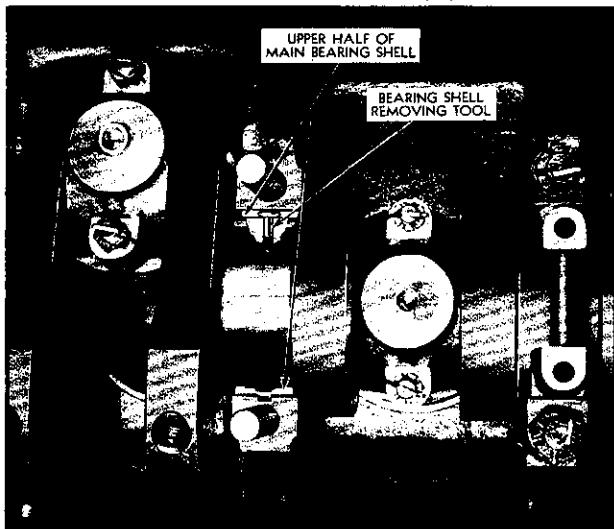

Fig. 3—Removing Main Bearing Upper Shell with Tool as Shown (Except Rear Main)—Crankshaft in Place.
**Remove Crankshaft Main Bearing Shells (Crankshaft in Place)**—When removal of upper half of main bearing shells becomes necessary and the removal of the crankshaft is undesirable, this operation can be performed by using the following procedure as a guide and by referring to Fig. 3.
4. The bearing cap having been removed, insert a  $\frac{1}{4}$ " x 1" bolt with a  $\frac{1}{2}$ " diameter and a  $\frac{1}{16}$ " thick head into the crankshaft main bearing oil hole, then revolve the shaft to the right (clockwise) and roll the bearing shell out of position, as shown in Fig. 3. The head of the bolt should not extend beyond the outside diameter of the shell.